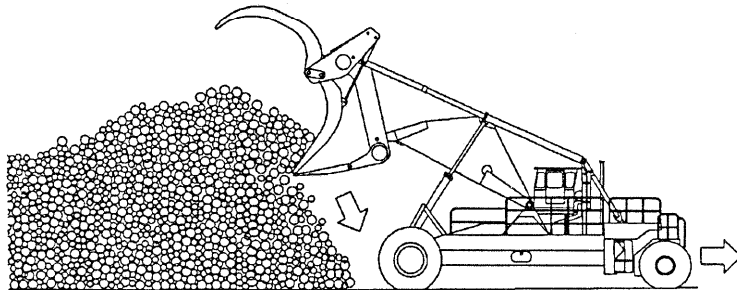

Fig 4-13
3. When the required decking height is reached, push the load off with the kickoff arms and simultaneously lower the carriage and back away slowly. Keep the tines as close to the pile as possible to prevent logs from rolling down in front of the drive tires. See Fig. 4-13.